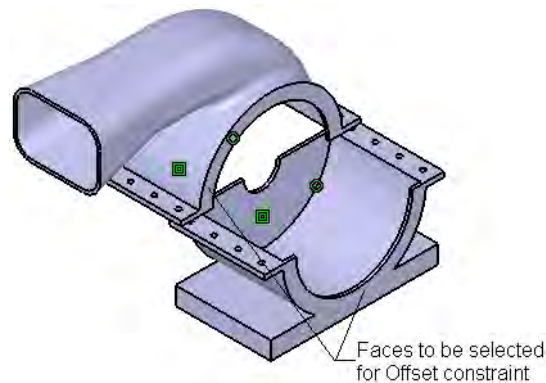

Figure 11-70 The surfaces to be selected for applying Offset constraint
- Choose the **Offset Constraint** button from the **Constraints** toolbar, and select the faces shown in Figure 11-70, to apply constraint between them.